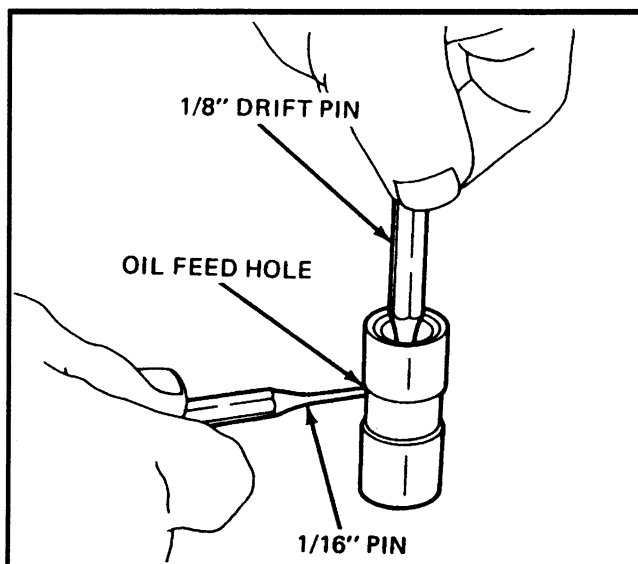

FIGURE 16. ASSEMBLY, HYDRAULIC VALVE LIFTER
4. Fill the assembly with SAE 10 engine oil. Put a 3 mm ($\frac{1}{8}$ inch) drift into the plunger and push the plunger until the holes for oil are aligned. See FIGURE 16. Now put a 1.6 mm ($\frac{1}{16}$ inch) drift through the holes to hold the plunger. Remove the 3 mm ($\frac{1}{8}$ inch) drift and fill the assembly again with SAE 10 oil.